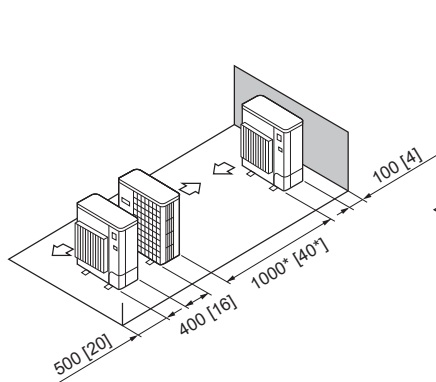

Fig. 2-16
5. Single parallel unit arrangement (Fig. 2-16)